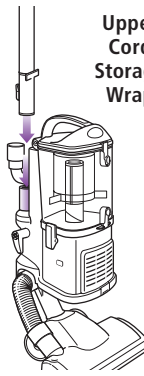

Fig. 9
- 3 Attach the end of the extension wand to the tube on the back of the detachable canister until it clicks into place. **(Fig. 9)**
- 4 Slide the accessory holder **(a)** positioned opposite the upper cord wrap, over the extension wand. Align the tab with the groove and push down. **(Fig. 9)**